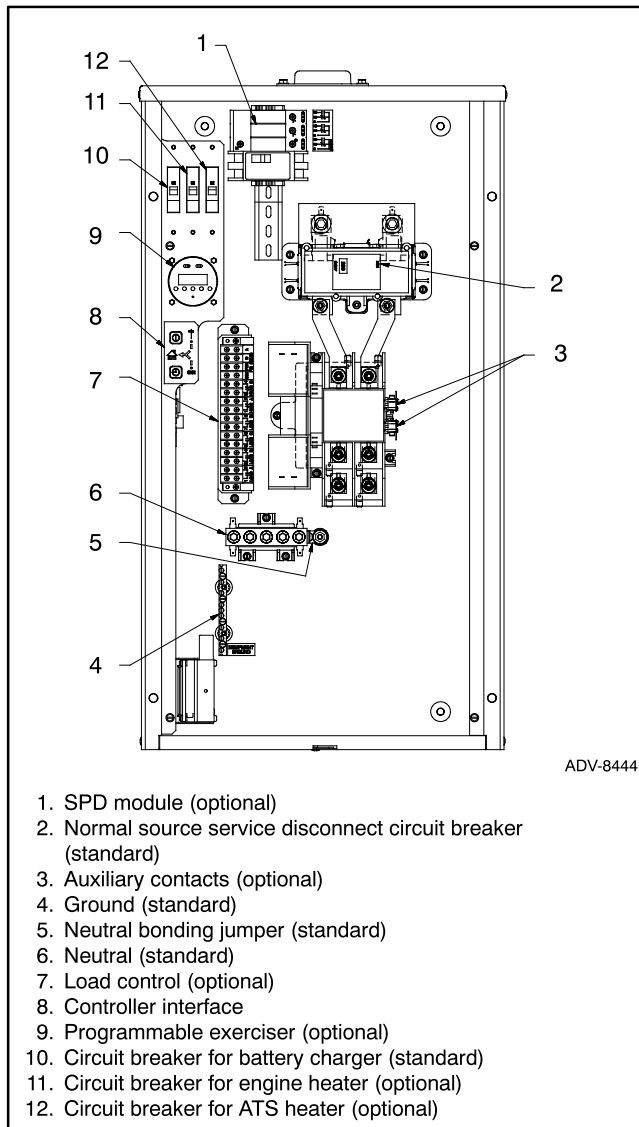

Figure 4-14 200 Amp Model SE Accessory Locations
The service entrance (SE) model transfer switch offers all of the accessories discussed in previous sections plus the additional accessories discussed here. See Figure 4-14 for model SE accessory locations.